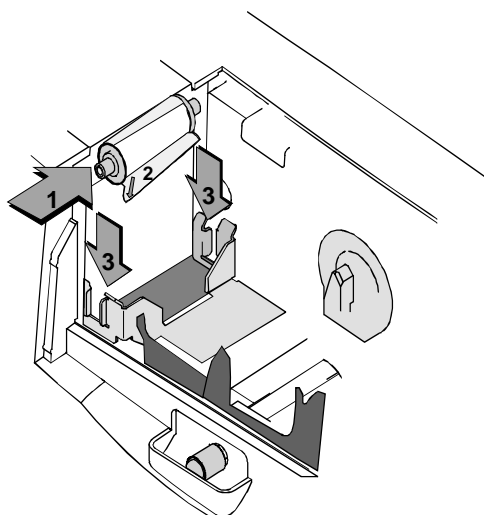

Figure 4-3: Replace the cleaning roller sleeve
- 6 Slide a new replaceable cleaning sleeve onto the spindle (step 1 in Figure 4-3).
- 7 Hold the replaceable cleaning roller spindle by the ends and remove the protective cover from the sleeve (step 2 in Figure 4-3). Discard the protective cover.
- 8 Continue to hold the spindle by the ends. Replace the spindle with sleeve in the printer (step 3 in Figure 4-3).